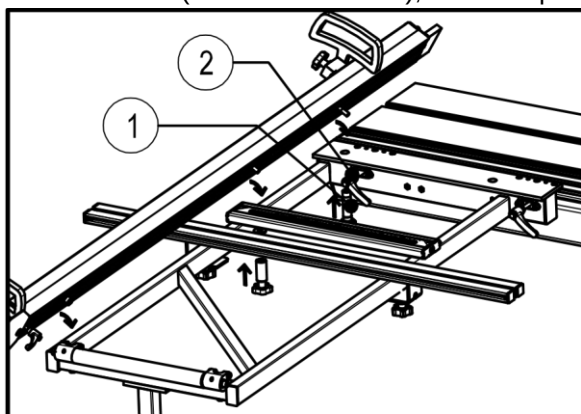
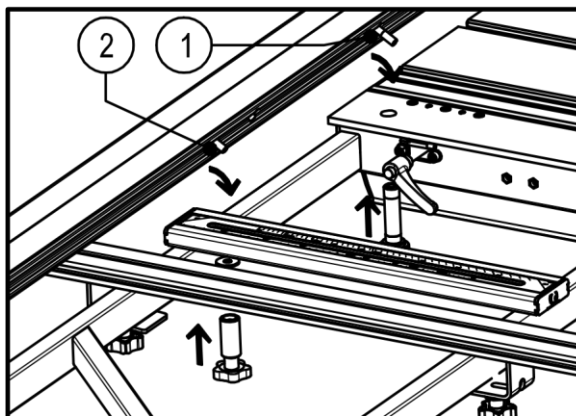

Abb.17
Fig. 18B
Mounting of the cross-cut table (Fig.17)
To place the cross-cut fence on the cross-cut table, place the fence with the right hinge pin (1) in the fastening hole on the front of the table (fig. 18B). Now place the clamping screw (2). Slide the fence backwards until the stop bolt (3) is securely in the rear support point (4) and the stop bolt (5) in the support point. These support points also serve as a 90° stop. The support point (4) is set fixed but can be adjusted if desired, but it does not serve to adjust the squareness of the fence, this is done with 4 adjusting bolts (fig 17, 2), but to adjust the rear fastening point without play. The fence can be used in 2 positions at the front or the rear, and at an angle. All attachment points are factory-set.